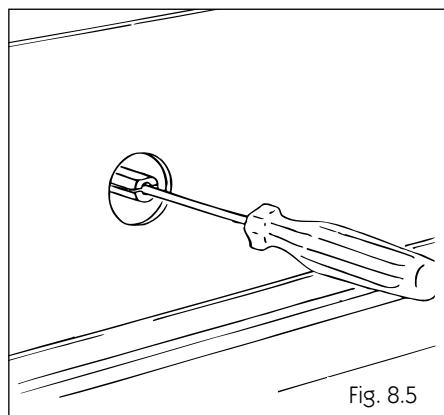

Fig. 8.5
- With a small flat screwdriver turn the screw inside the tap rod to the correct regulation (fig. 8.5).